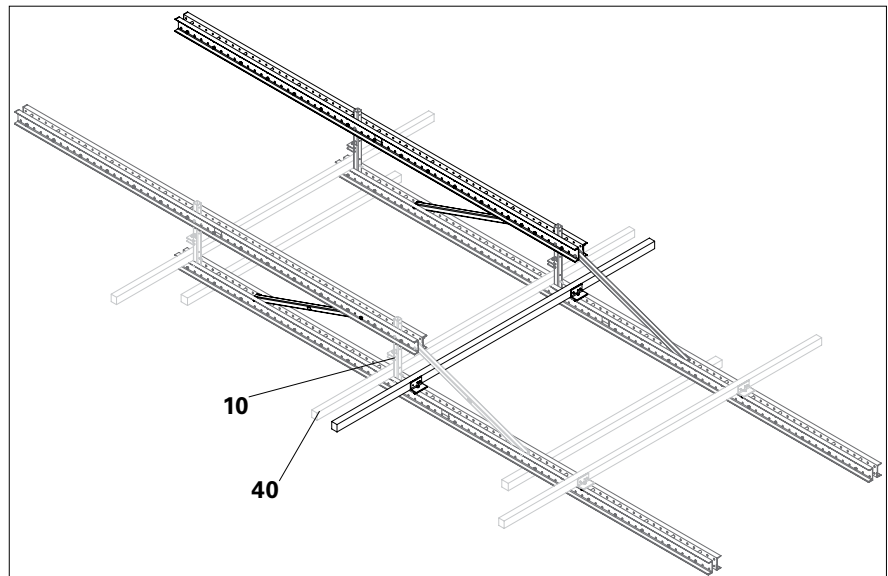

Fig. E.03
2. Remove Girders (40) from the Crossbars (10).
3. Remove Enclosure Posts (1) from both bracket units.
- (Fig. E.03 + E.04)